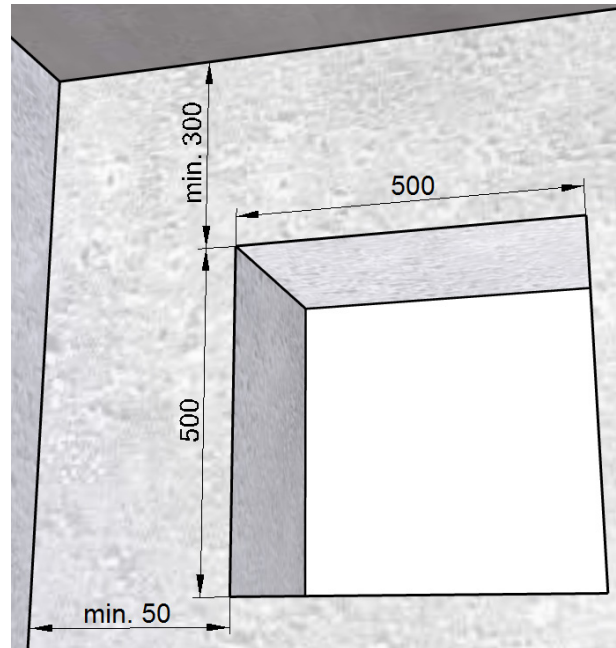

Fig. 7: Wall breakthrough for installation kit **with** filler piece, dimensions in millimetres
- Full-width wall breakthrough (see Fig. 7) for installation kit **with** filler piece M-WRG-M/Fü